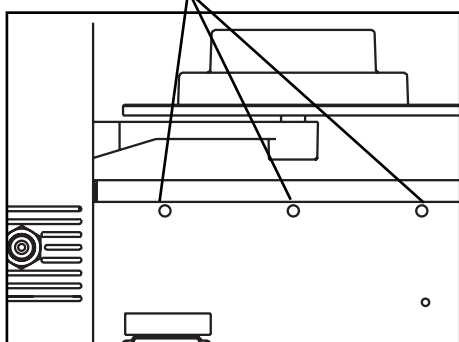

Fig 2A
3. Remove the 3 screws from the cover on the rear of the unit. Fig. 2A